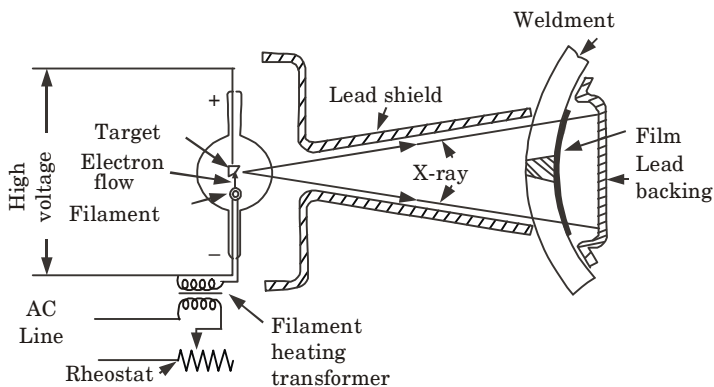

Fig. 5.24.1. X-ray radiography.
- X-rays are produced in an X-ray tube (Fig. 5.24.1) where a cathode filament provides electrons which proceed towards the target anode, strike and are suddenly stopped, a part of their kinetic energy is converted to energy of radiation or X-rays.
- The portion of the weldment where defects are suspected is exposed to X-rays emitted from the X-ray tube (Fig. 5.24.1).